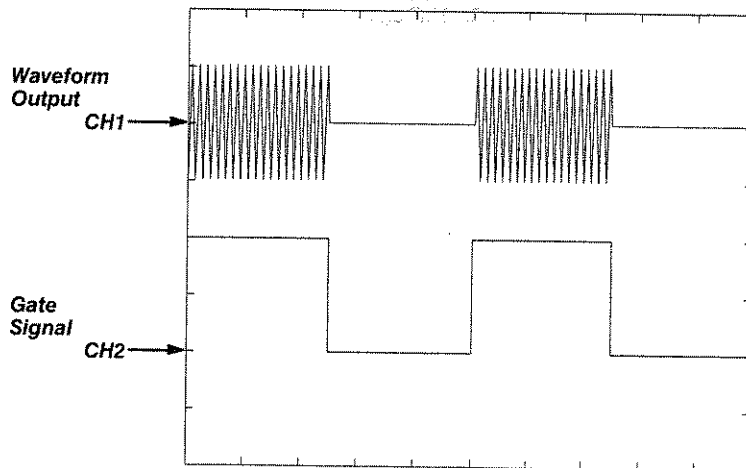

Figure E-7: Relationship between 1 Volt or Greater Gate Signal and Waveform Output Signal
- d. *Check gated mode with positive gate signal:* Check that the oscilloscope displays a sine wave while the function generator gate signal amplitude is 1 V or greater (see Figure E-7). Gated level is set to 1 V.